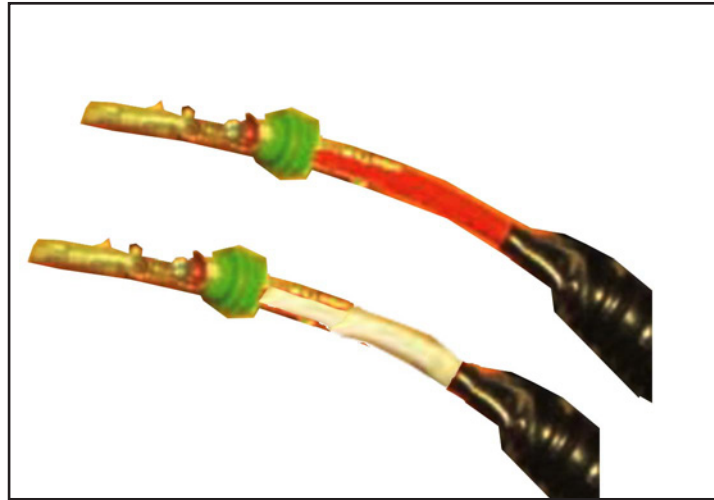

Figure 4 - Terminal and Rubber Seal Plugs
- 1.7. Install the 12010293 rubber seal plug and 12124581 terminal on the read wire. See Figure 4.
- 1.8. Install the 12089679 rubber seal plug and 12124580 terminal on the white wire. See Figure 4.